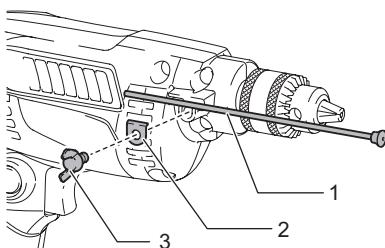

Fig.4
► Fig.4: 1. Depth gauge 2. Washer 3. Clamp screw